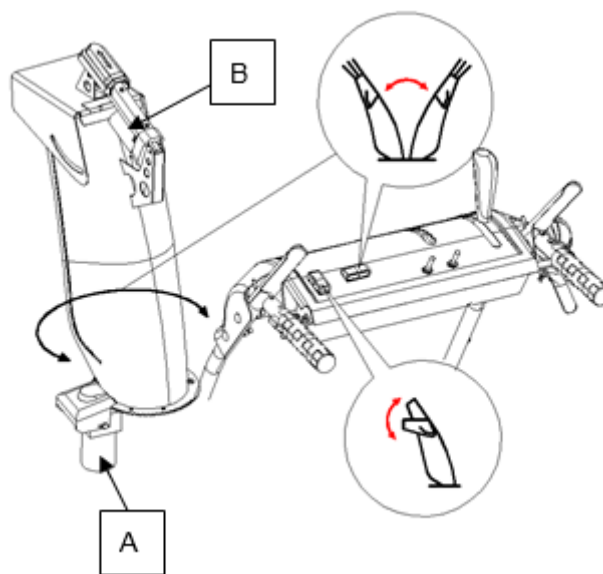

Figure 9
1. Press and hold the chute rotation switch to the UP position to rotate the chute to the left (see A, Figure 9).
1. Press and hold the deflector switch to the UP position to provide a higher stream and greater distance (see B, Figure 9).